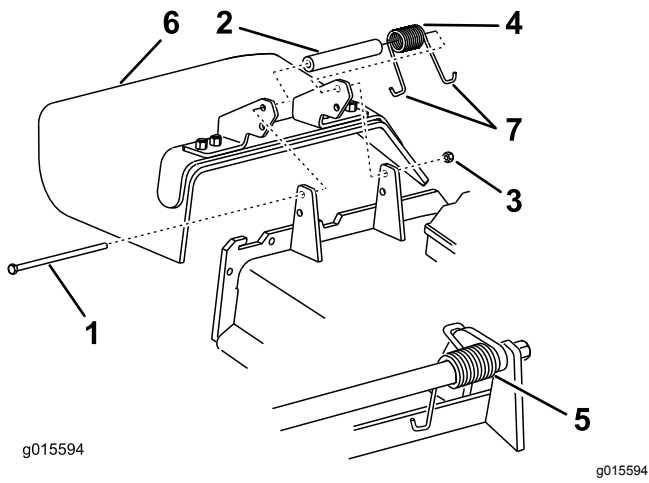

Figure 100
- Remove the locknut, bolt, spring, and spacer holding the deflector to the pivot brackets (Figure 100).
- Remove the damaged or worn grass deflector (Figure 100).
Note: Make sure that 1 J-hook end of the spring is installed behind the deck edge before installing the bolt as shown in Figure 100.
6. Place 1 J-hook end of the spring around the grass deflector (Figure 100).